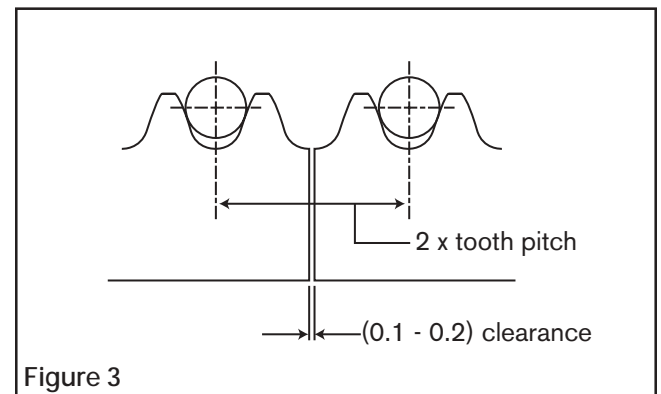

Figure 3
6. Adjust the second rack so that the jig pins rest evenly in both racks and the jig is in full contact with the side of both racks (Refer to Figure 3).